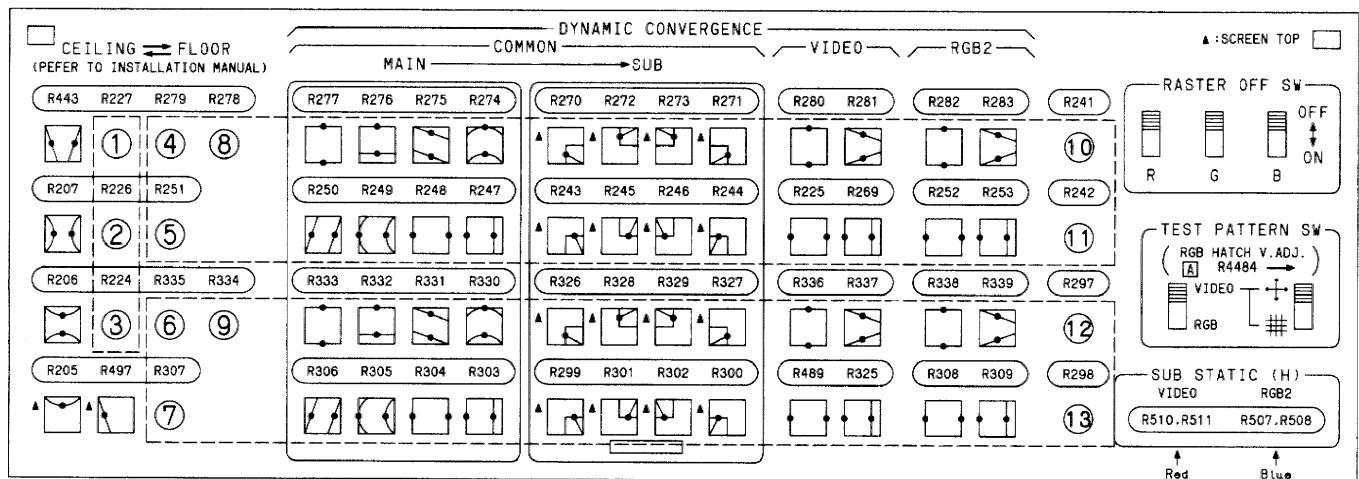

Fig. 48
vergence VRs (installer adjusted VR). Fig. 48 shows the locations and types of convergence VRs used.
- (1) Raster adjustment → Basically, R443, R207, R206, R205 and R497 shown in Fig. 48 are used for raster adjustment.
(2) Auxiliary VRs for Signal Correction
Raster and dynamic convergence adjustments are made basically using the VRs shown in Fig. 48, but the following auxiliary VRs are provided as well (shown in Fig. 48) as ① through ⑬: